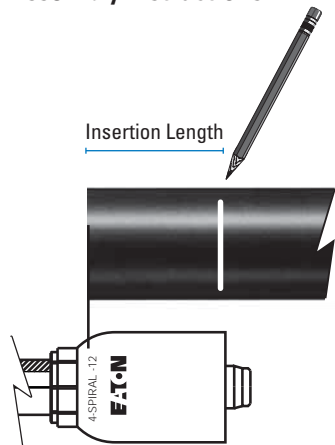

Figure 1
- To determine hose insertion length (L), align end of hose to top of stenciled "4 SPIRAL" or "6 SPIRAL" (located on the socket taper) and mark hose where the socket ends (Figure 1).